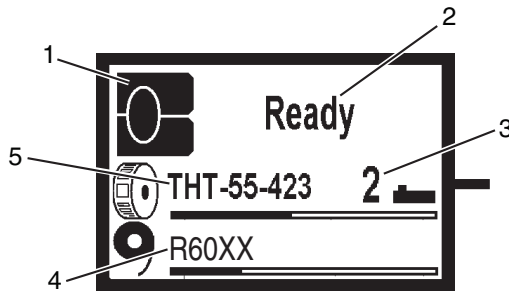

Figure 12, Typical Ready Display
- The printer LCD display also shows an estimated amount of labels and ribbon remaining (**Figure 12**).